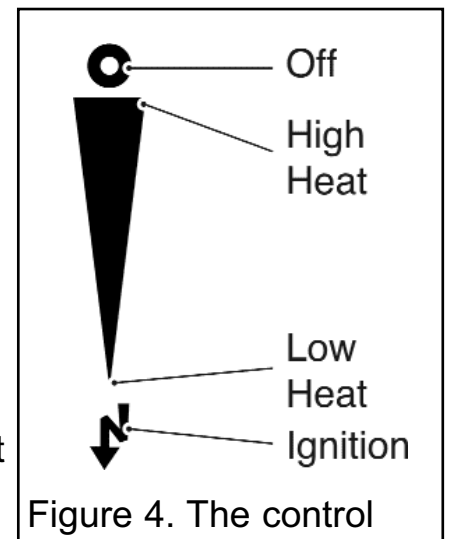

Figure 4. The control
The slide control is shown in figure 4.
3. If low heat is required, release the button. The button will automatically spring up to the low heat position shown in figure 4 (See note i below). If for any reason the slider control does not spring up, raise the slider to the off (O) position (Topmost position) and contact your installer. Do not use the fire until the problem has been rectified.
4. For a higher heat level slide the button upwards. The burner flames and heat output will gradually increase until the button reaches the high heat position shown in figure 4. When the button reaches the high heat position you will feel a check to its movement. **Do not slide the button above the high heat position unless you want to turn the fire off** (See note i below).